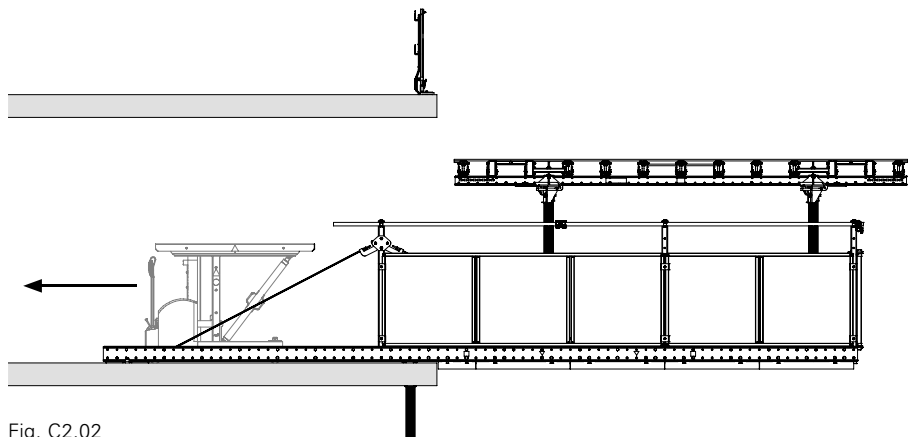

Fig. C2.02
2. Remove lifting fork from the RCS MP 550. (Fig. C2.02)